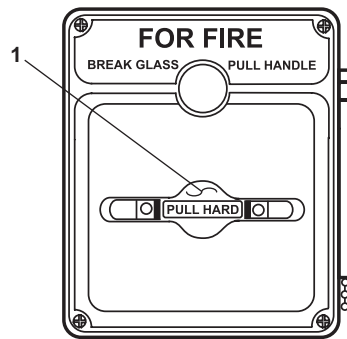

Figure 10. Interior FM-200 Pull Box
7. Break the glass on one of the FM-200 pull boxes (figure 10 or 11, item 1). Pull boxes are found in the following locations:
8. Pull the handle (figure 10 or 11, item 1) to actuate the FM-200 system. The handle is designed to require less than 40 pounds (18.14 kg) force and 14 inches (35.6 cm) of pull to operate. If the FM-200 system fails to actuate, proceed to the FM-200 cylinder location, AMS 2, frame 22, and follow the emergency discharge instructions posted at the FM-200 cylinder location and in WP 0007 00. Enter and evacuate AMS 2 using the emergency escape scuttle.
2. During normal operation, the LMI has five display screens, defaulting to the primary operating display shown in figure 10. You may move from screen to screen with a simple push of either the up arrow button (figure 2, item 5) or the down arrow button (figure 2, item 4). After approximately ten seconds the Liquid Crystal Display (LCD) (figure 2, item 1) will always default to the primary operating display. This function cannot be changed.
3. The primary operating display provides the operator with the information outlined in table 1 and figure 10.
Table 1. Primary Operating Display Screen Data (refer to figure 10)